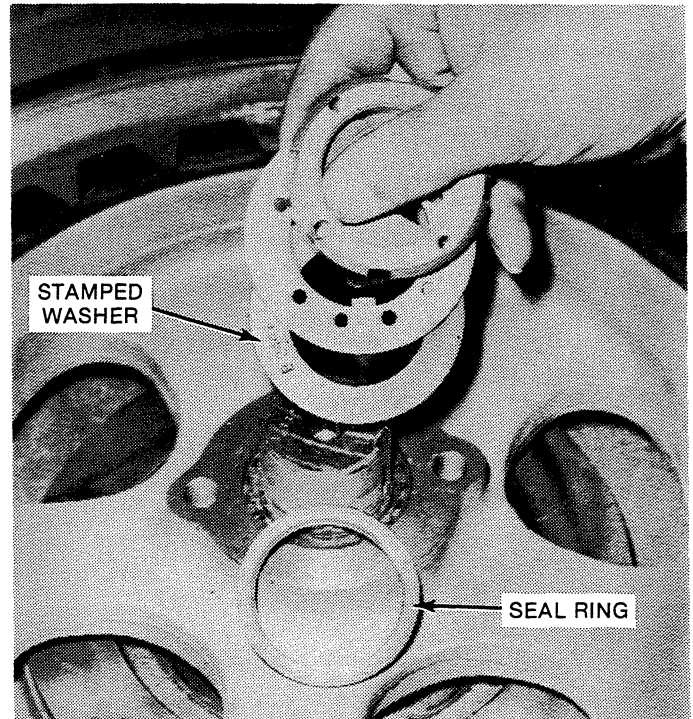

Figure 6-28. *Bearing Locknut, Bearing Lockwasher, Stamped Washer, and Rectangular Seal Ring Removed.*
11. Remove the bearing lockwasher (Figure 12-2, 46) and stamped washer (42). See Figure 6-28.